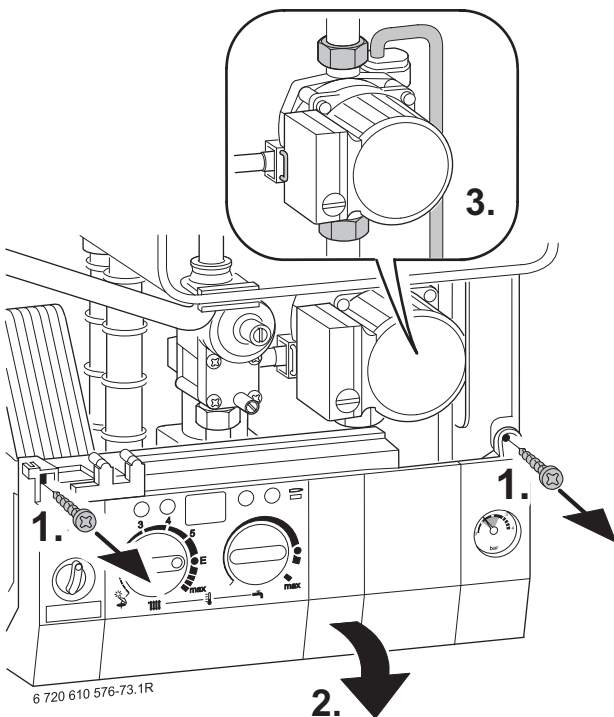

Fig. 58
- ▶ Remove two switchbox fixing screws (1.). Refer to fig. 58.
- ▶ Unscrew the pump union nuts (3.). Refer to fig. 58.
- ▶ Lower the control panel. Refer to fig. 58.
- ▶ Lower the facia. Refer to fig. 58.
- ▶ Undo the top connection of the pump. Refer to fig. 58.